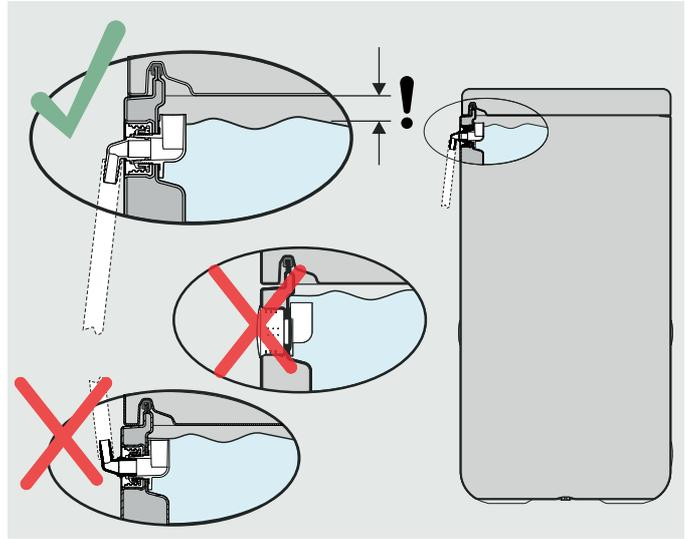

Fig. 4-6 Installation of drain hose at safety overflow
- Connect the drain hose to the connector for the safety overflow (fig. 4-6 to fig. 3-1, item 23).